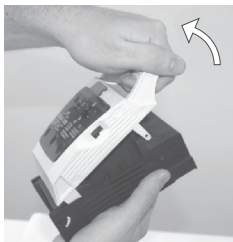

Figure 1
- Take the handle and open the cover up to firm resistance (Figure 1).